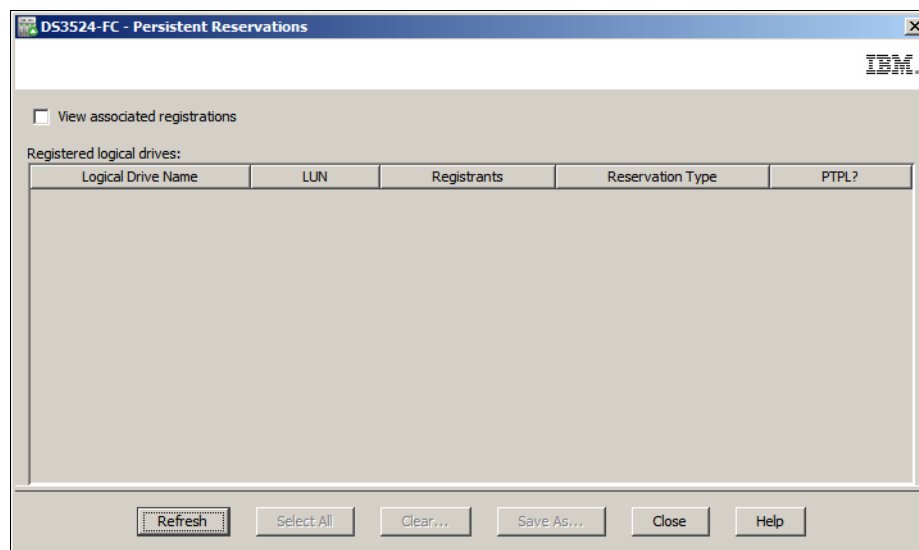

Figure 14-115 Persistent Reservations
1. Click **Advanced** → **Maintenance** → **Persistent Reservations** to open the **Persistent Reservations** window as shown in Figure 14-115.